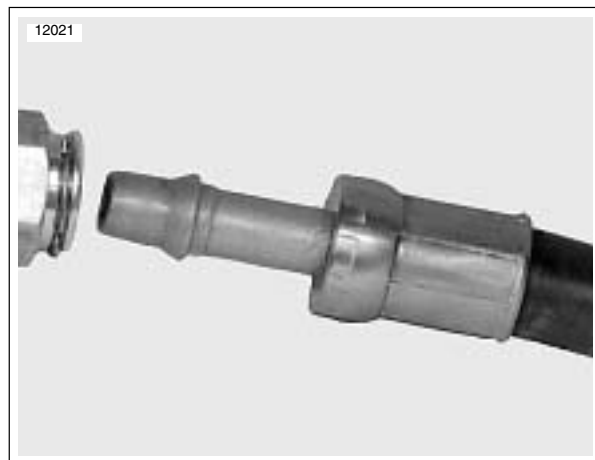

Figure 3-109. Flanged Oil Line
2. See Figure 3-109. Push the correct flanged oil line into the correct fitting in the swingarm until each one clicks in place under the spring clip.